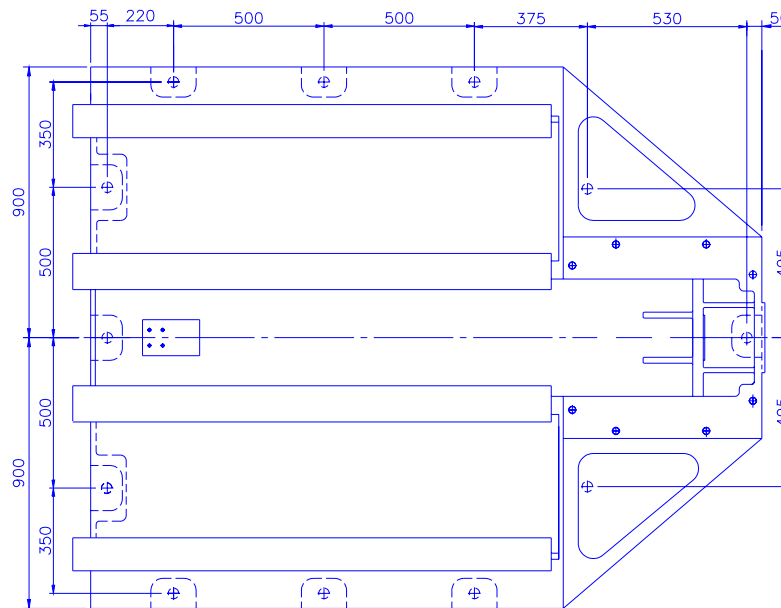

FIG. 2.2 FLOOR PLAN
2.2.5 SEE FIG. 2.2 .
2.3.1 WHEN FOUNDATION BOLT IS NOT USED, USE LEVELING PADS FURNISHED TO THE MACHINE TO INSTALL THE MACHINE. CLEAN THE REVERSE SURFACE OF THE LEVELING PADS AND THE SUPPORTING PADS. AND PLACE THE LEVELING PADS AND THE SUPPORTING PADS ACCORDING TO THE FLOOR PLAN FIG 2.2